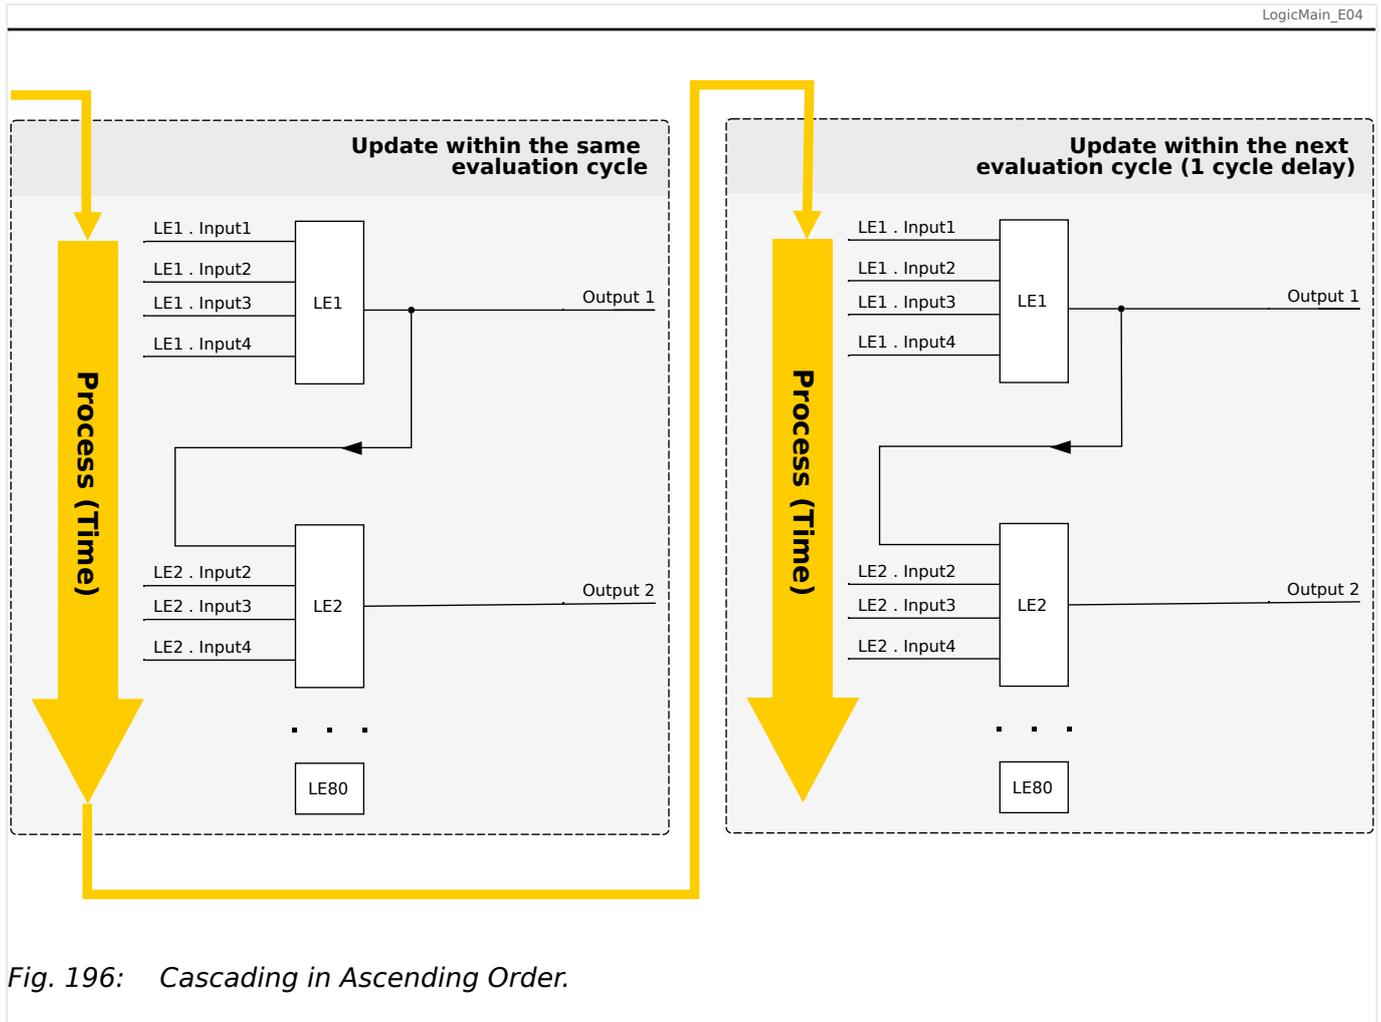
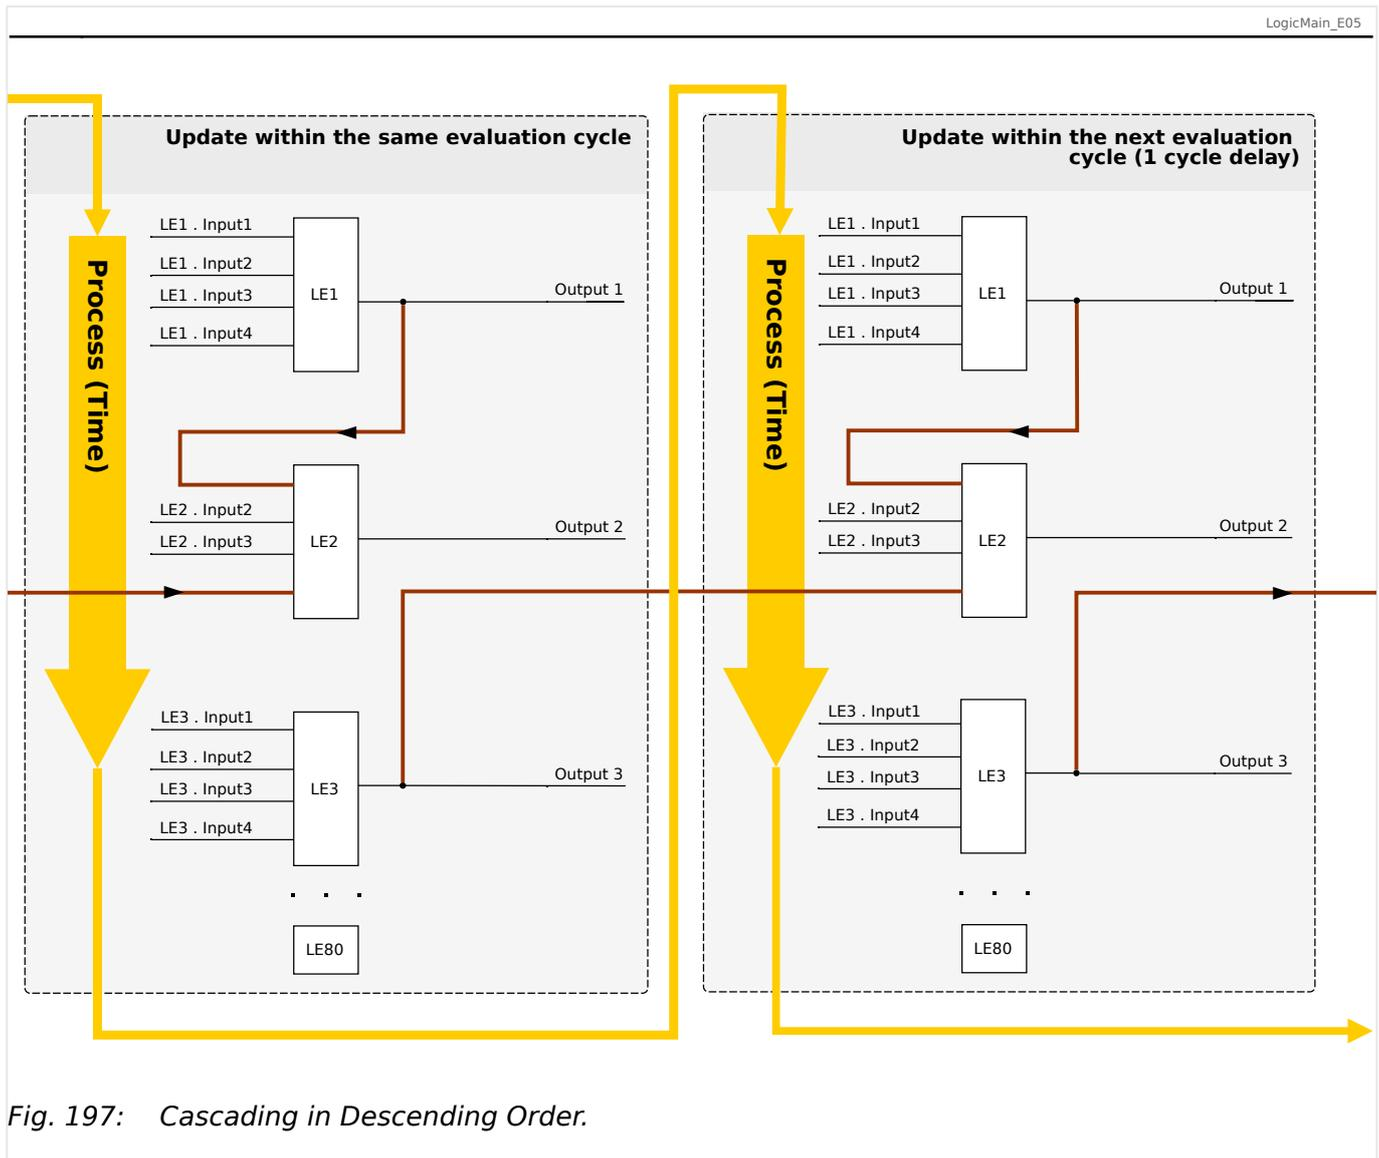

Fig. 196: Cascading in Ascending Order.
Fig. 197: Cascading in Descending Order.
- **Ascending** sequence means that some output is fed into the input of a logic equation with **higher** number. For instance, diagram  Fig. 196 below shows an example where the result of Logic Equation LE1 is used as an input of Logic Equation LE2.
- **Descending** sequence means that some output is fed into the input of a logic equation with **lower** number. For instance, diagram  Fig. 197 shows an example where the result of Logic Equation LE3 is used as an input of Logic Equation LE2.
Both ascending and descending sequences may be used and combined one with the other, with no immediate difference. However, due to the evaluation of all equations in ascending order the actual run-time values that are fed in at the input of an equation will have a different “age”, as is shown in  Fig. 196 and  Fig. 197 below.
In the example shown in Fig. 197 above, “Logic Equation 2” uses the output states of two other equations, “Logic Equation 1” and “Logic Equation 3”. The result of “Logic Equation 1” is used in ascending order and has therefore been evaluated within the same process cycle. The result of “Logic Equation 3” is used in descending order and has therefore been evaluated in the previous process cycle.